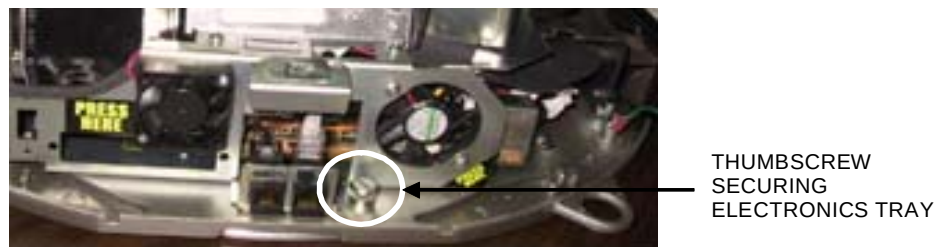

FIGURE 10 - REAR VIEW OF ELECTRONICS TRAY
12. Loosen the thumbscrew located in the middle of the rear of the electronics tray and slide the tray out of the unit. See Figure 10.